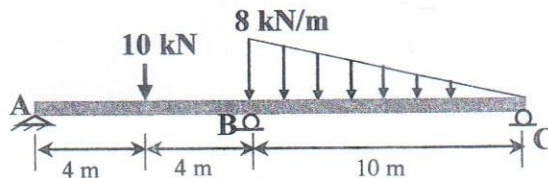

Fig.3
- 3 Using flexibility method determine the reactions at the supports of the beam shown (25) in Fig.3. Also draw the shear force and moment diagrams.  $EI$  is constant.